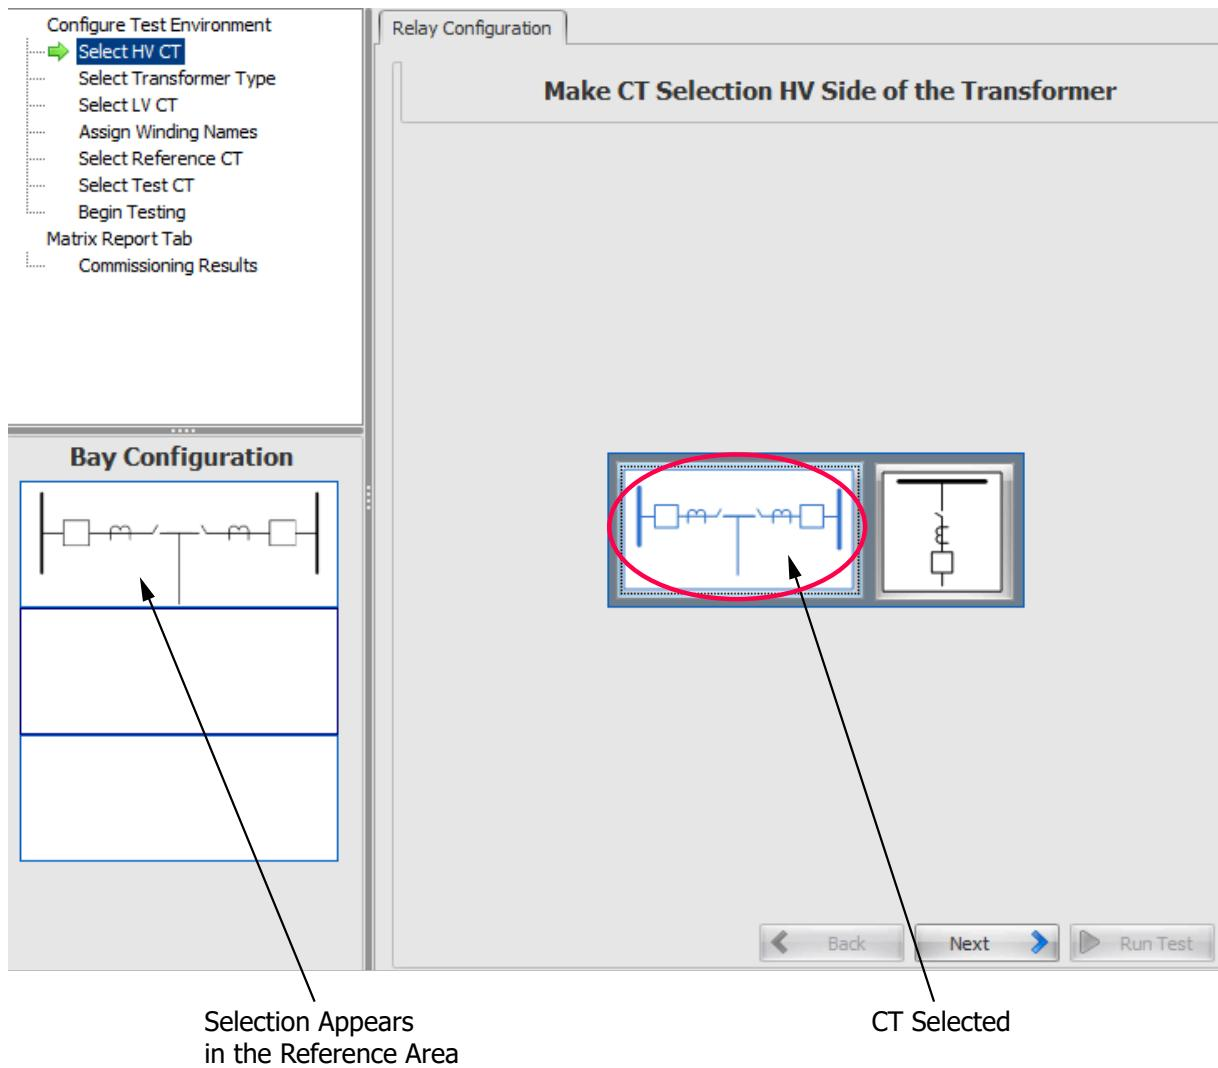

Figure 7.27 HV CT Selection
Step 3. To configure the HV part of the example substation, select the encircled image shown in *Figure 7.27*. Observe that your selection now displays in the Reference Area.